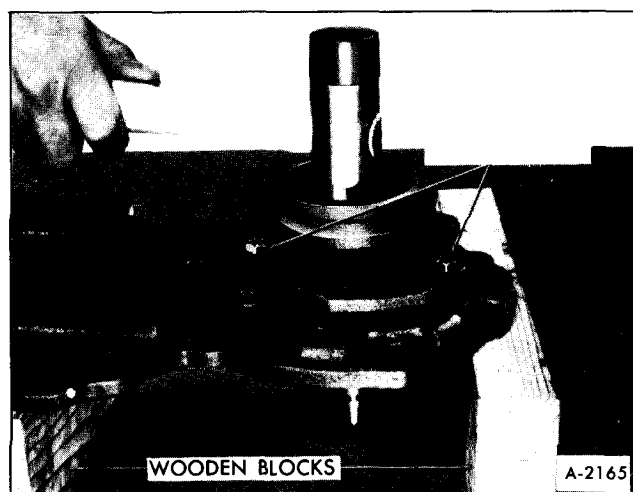

Figure 48-Installing Drive Sprocket Support
g. Install drive sprocket support housing into pump cover plate by using a plastic mallet to seat the housing. Use bolts for guides, Figure 48.